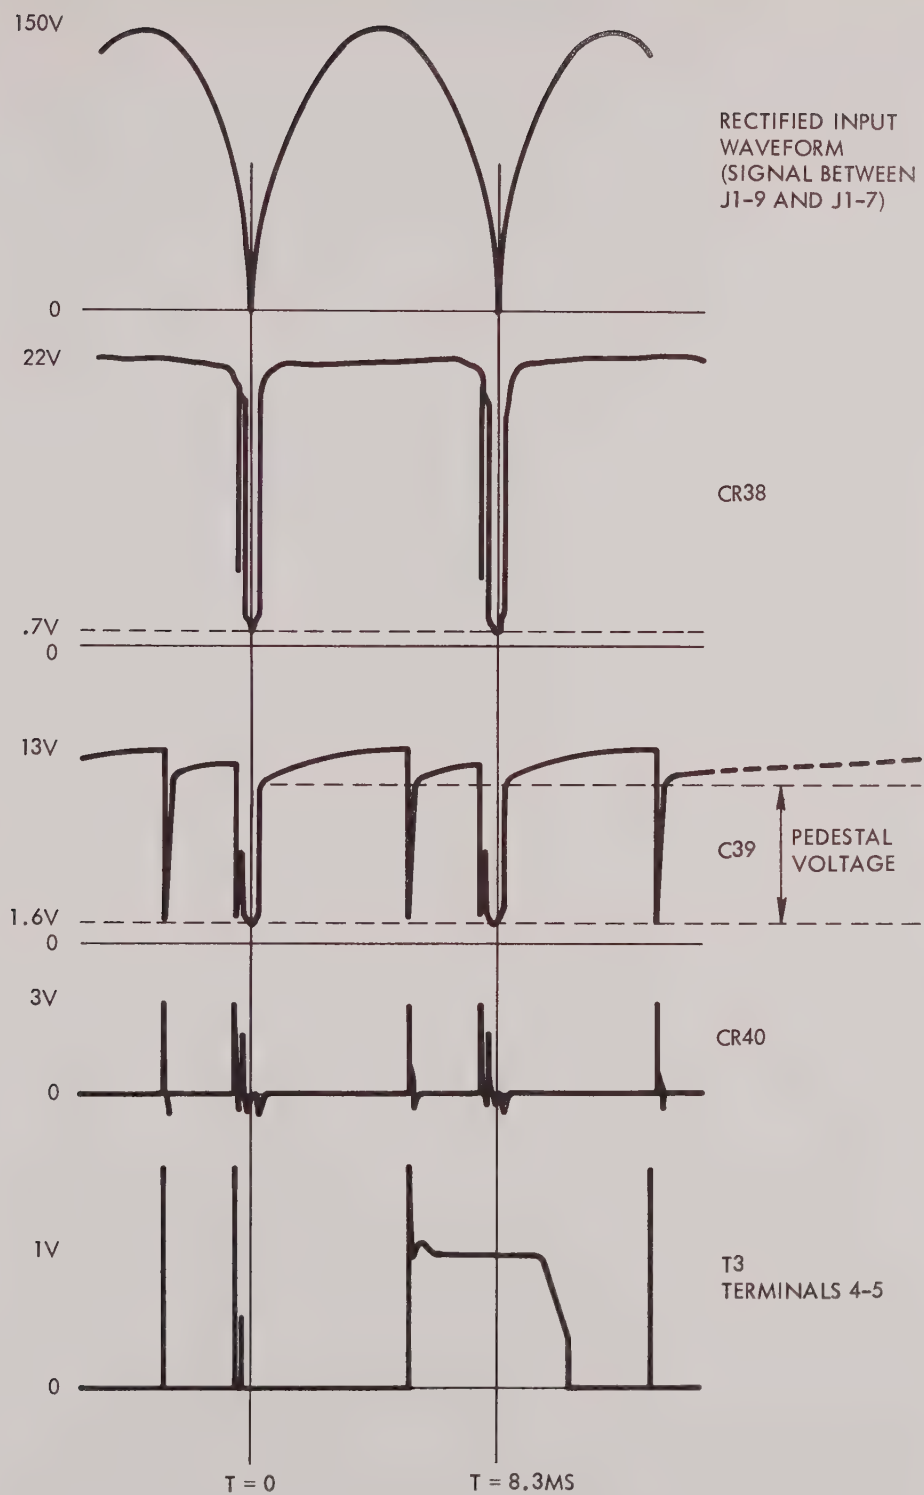

FIGURE 6-7
B. No pre-regulator output (no voltage across C23).	1. Check for presence of firing pulses at T3-4 and -5, or T3-7 and -8 (See Figure 6-7). If pulse is present, SCR CR15, or 16 defective. 2. If no pulse at T3, check signal across CR38 (Figure 6-7). If proper signal exists, check for defective transistors Q16 or Q17. 3. If CR38 signal is not correct check CR38, CR35 or CR36.